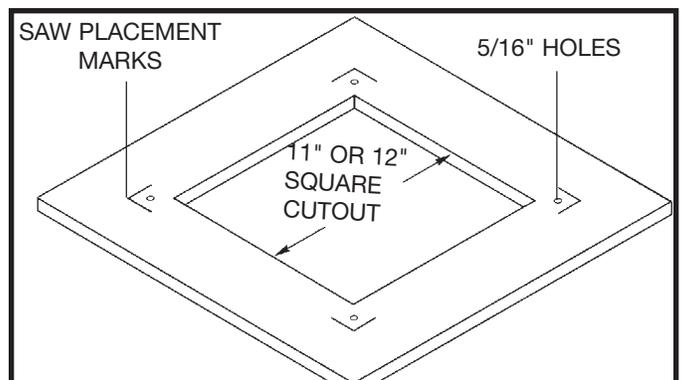

Fig. 15
**A HOLE MUST BE PROVIDED IN THE SUPPORTING SURFACE TO FACILITATE SAWDUST FALL-THRU AND REMOVAL.** Square the saw on the supporting surface and mark the location of the four 5/16 inch holes to be drilled, as shown in Fig. 15. Locate and mark an 11 or 12 inch square centered between the four mounting holes and cut out and remove the square, as shown in Fig. 15. This opening will allow sawdust to fall through the saw base. Fasten the saw to the workbench utilizing the mounting holes that were just drilled.